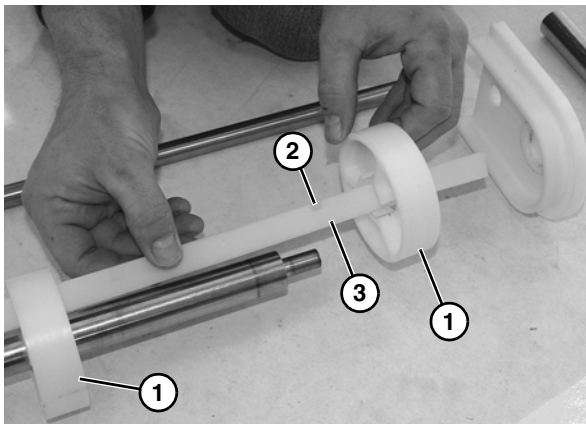

Figure 65
1. Place the pucks (Figure 65, item 1) into the slots (Figure 65, item 2) of alignment bar (Figure 65, item 3).